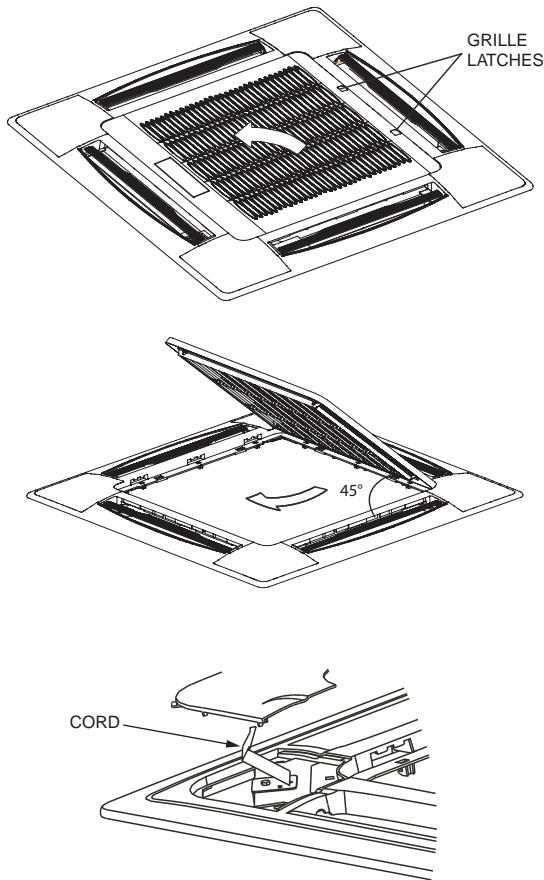

Fig. 7 — Removing Grille from Panel
3. Unscrew the bolts on the 4 corners of the cover panel. Remove the cover by loosening the cord. See Fig. 7.